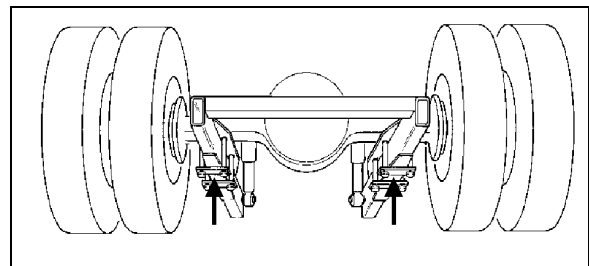

FIGURE 6: JACKING POINTS ON DRIVE AXLE
8. Install jacks under the axle jacking points to support the axle weight (refer to Figure 6).